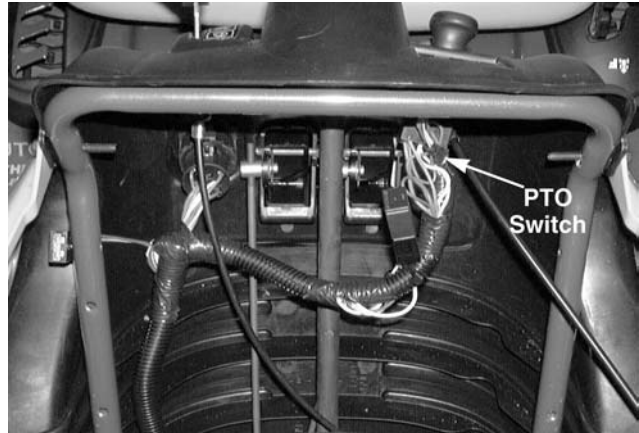

Figure 9-76
- Locate and remove the PTO switch and wiring harness connector. See Figure 9-76.